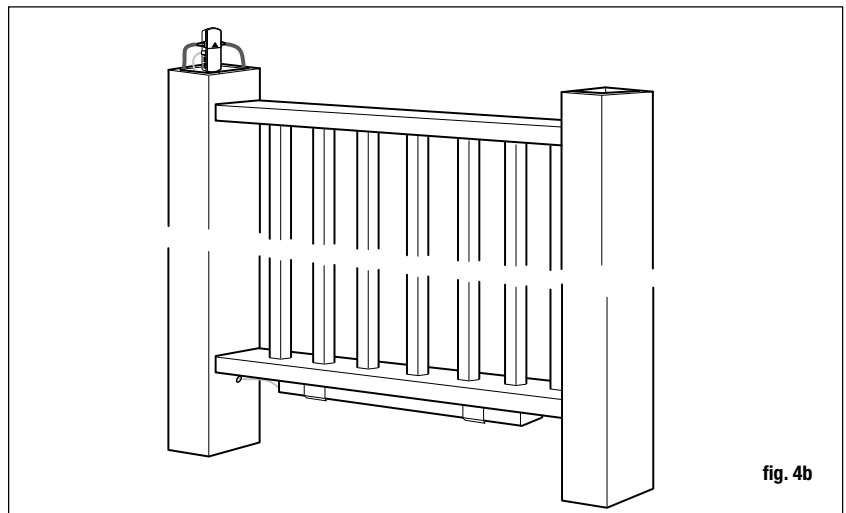

fig. 4b
4. Drill a 5/16" hole in the post directly below the bottom rail. Run the wire from the light through the hole in the post to the junction box. An extension cord may be needed depending on the height of your post (fig. 4b).